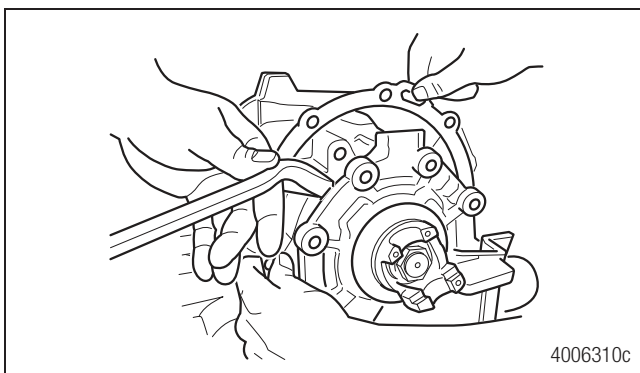

Figure 5.16
- Use a pry bar and mallet to loosen the input cage cover and internal pump assembly, if equipped. Figure 5.16.
- Remove the shim pack. Figure 5.16.